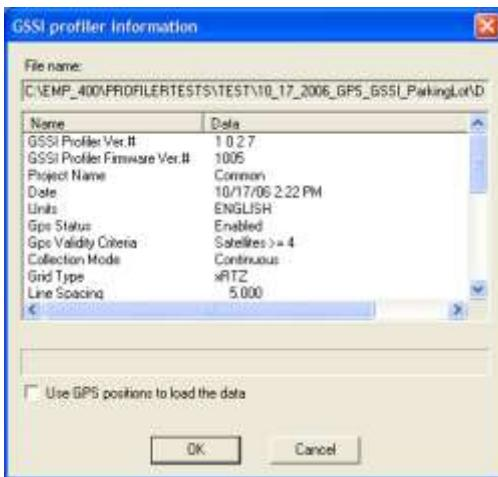

Figure 93: MagMap2000 GSSI Profiler Header Information Display(NEW).
- Upon opening the file, the MagMap2000 program will open the GSSI Profiler Information display. This is information comprises data stored in the file header (Figure 93).